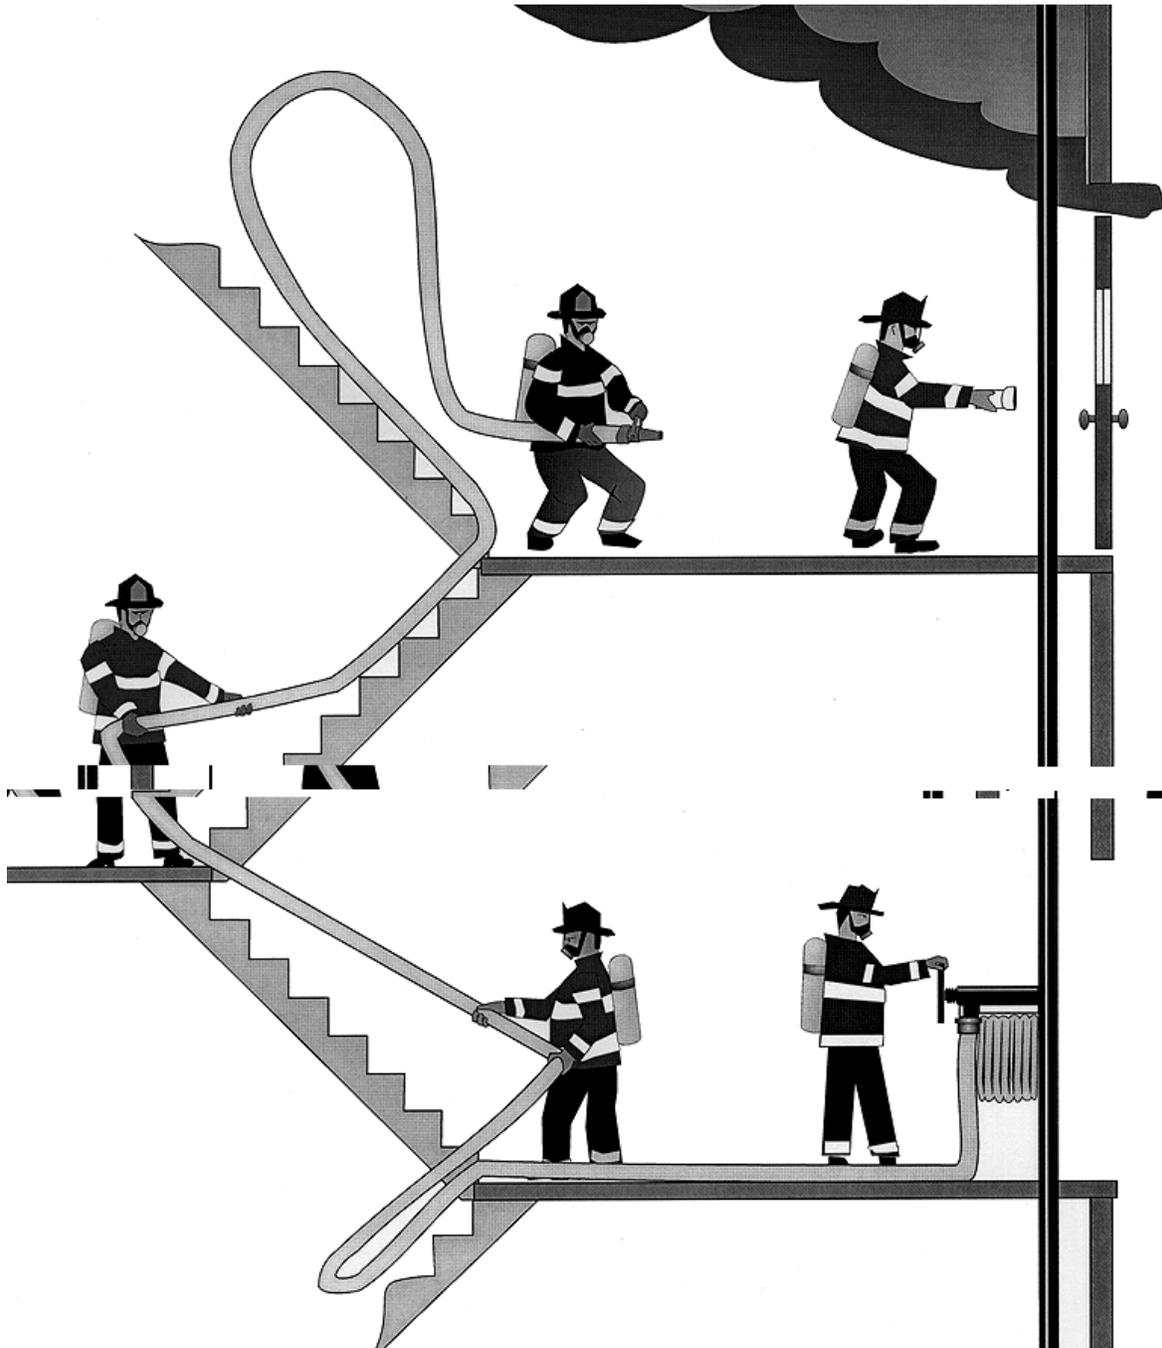

Fig. 9-4
9.4.3 The first hoseline should normally be attached to an outlet on the floor immediately below the fire (see Fig. 9-4). In buildings of fireproof construction with properly functioning stairway doors (including view glass intact), an outlet on the fire floor may be used if it will facilitate operations. Hose outlets located in corridors on the fire floor should **never** be used.